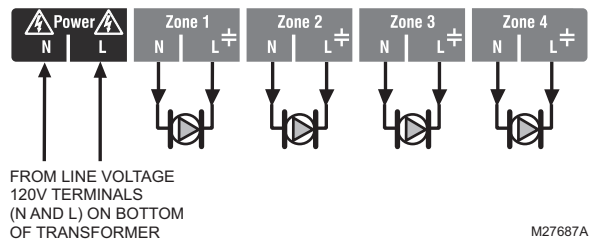
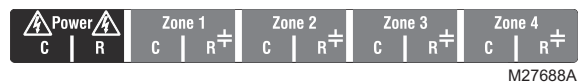

Fig. 10. Wiring an AQ15540B Zoning Module for use with line voltage circulators.
Fig. 11. Low voltage output sticker.
Refer to Fig. 10. Remove the plastic wiring barrier that is located in the bottom wiring channel between the AQ15100B Control Module and the Zoning Module. Run jumper wires from the N and L terminals on the bottom of the AQ251 Control Panel's transformer, through the wiring channel across the bottom of the Control Panel, and to the corresponding N and L terminals of the Zoning Module.
*If low voltage zone valves are used with the AQ25142B Control Panel, the supplied Low Voltage Output sticker (shown in Fig. 11) **must** be applied over the line voltage output sticker (see Fig. 10) that is already attached to the Zoning Module.*